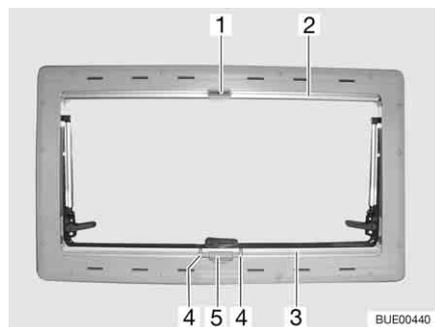

Fig. 68 Hinged window
- Press handle (Fig. 68,4) and draw blind (Fig. 68,3) from the bottom to the top up to the desired height.
- Clench handle (Fig. 68,4). The latch is released.
- Slowly return the blind (Fig. 68,3) to its initial position.
- Pull insect screen (Fig. 68,2) down until it touches the blind (Fig. 68,3), and engage the closure latch (Fig. 68,1) in the locking device (Fig. 68,5).
- Release the closure latch (Fig. 68,1).